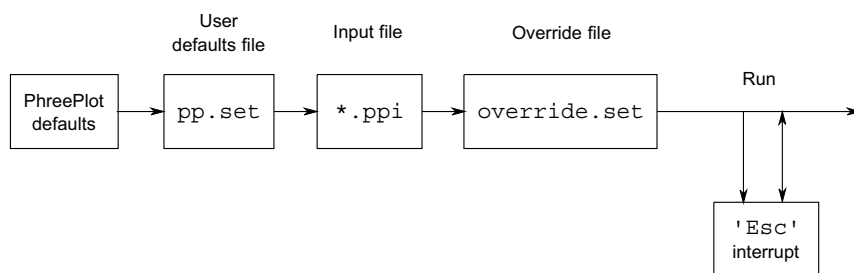

Figure 5.1. Diagram showing the sequence of setting of the keywords.
**PhreePlot** runs in response to the settings of various keyword-value pairs and lists. The values associated with these keywords can be defined in various ways (Figure 5.1). In running order, these are: